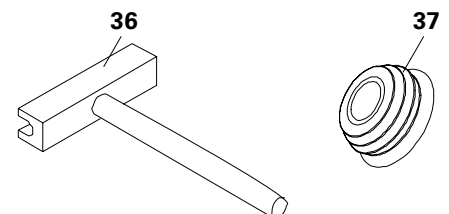

Fig. A5.03
- Tie Rod Wrench 15 (36) for one-man tie point operations from one side of the formwork.
- Plugs Ø 20/24 mm (37) for closing tie holes which are not required.
- (Fig. A5.03)